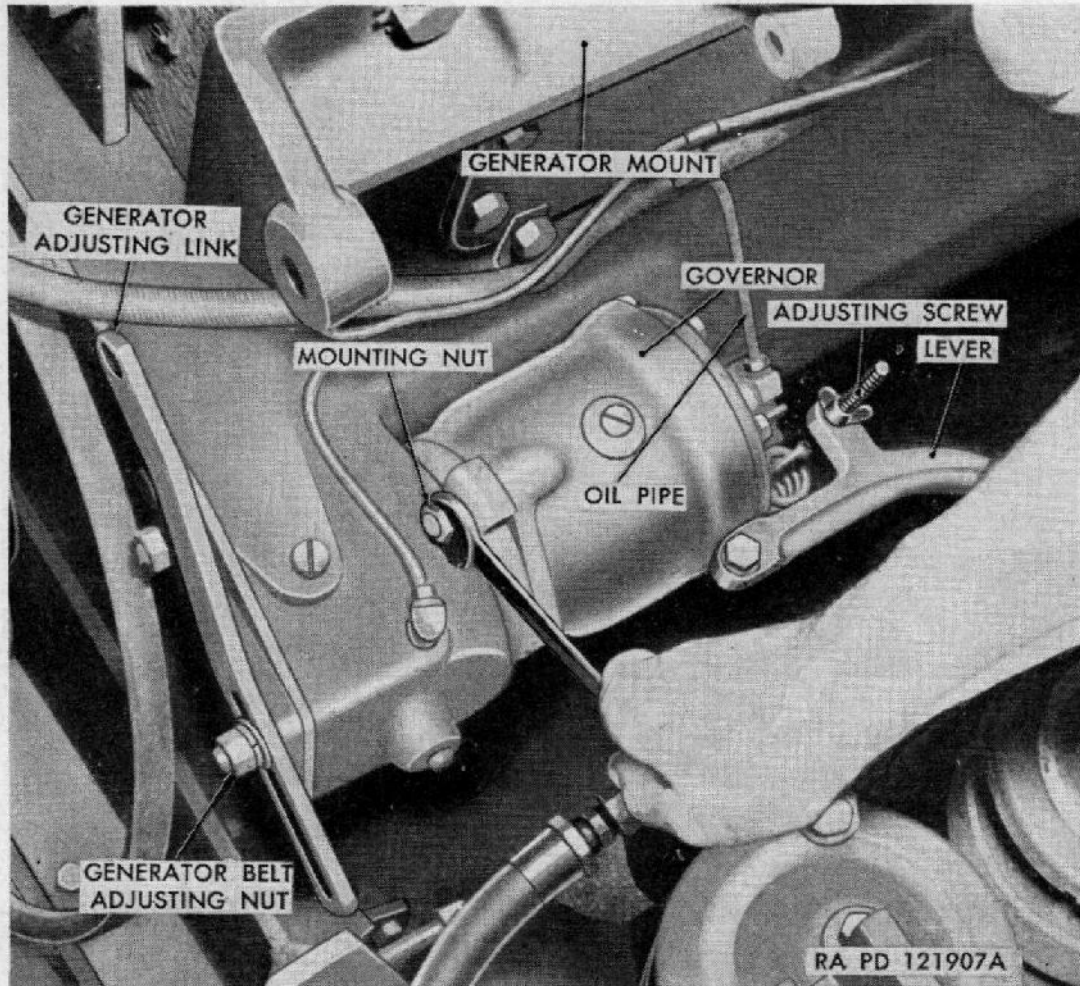

Figure 59. Governor removal.
ing screw to adjust the tension on spring so that movement of the governor lever starts when the engine speed is increased above 2,100 rpm (fig. 59). The governor lever should have sufficient travel to limit the high idler speed to approximately 2,300 rpm. Increasing the spring tension increases the high idler speed, decreasing spring tension decreases high idle speed. The wing nut locks every half turn.
(c) Using screw driver or small pry bar, raise governor until shifter lever in governor contacts the stop screw in governor cover, which limits the upward travel of the lever (fig. 59). Hold lever against stop screw. With throttle in closed position, adjust governor stop screw to allow from 0.010- to 0.020-inch clearance between flat surfaces of throttle lever and floating lever when governor lever is at its upper limit of travel.
- (1) *Remove generator.* Open right engine compartment door and remove generator (par. 137b).
- (2) *Remove governor* (fig. 59). Disconnect oil pipe from upper fitting at lever end of governor and from fitting on timing gear housing. Remove cap screw from clip supporting this pipe and remove the oil pipe. Disconnect oil pipes from lower fitting on lever end of governor. Remove wing nut from spring adjusting screw and drop screw out of lever. Remove yoke pin to disconnect lever end of governor-to-carburetor control rod from governor lever. Remove nuts from stud bolts on lower and upper sides of governor that attach governor housing to timing gear housing, and pull governor straight forward from timing gear housing.
governor with lock washer and nut on stud bolt on bottom side and mounting clamp, lock washer, and nut on upper side. Install governor lubricating oil pipe (fig. 59), connecting front end of pipe to upper fitting at lever end of governor and rear end of pipe to fitting in timing gear housing. Connect end of second oil pipe to lower fittings at lever end of governor. Install cap screw and lock washer to attach pipe clip to cylinder block. Slip end of governor spring